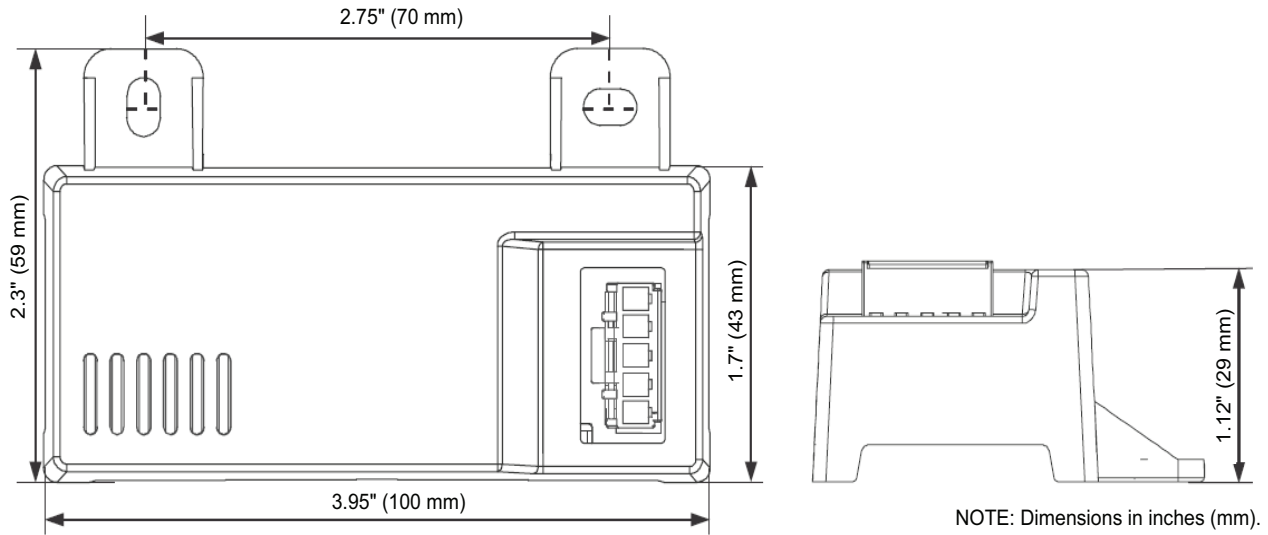
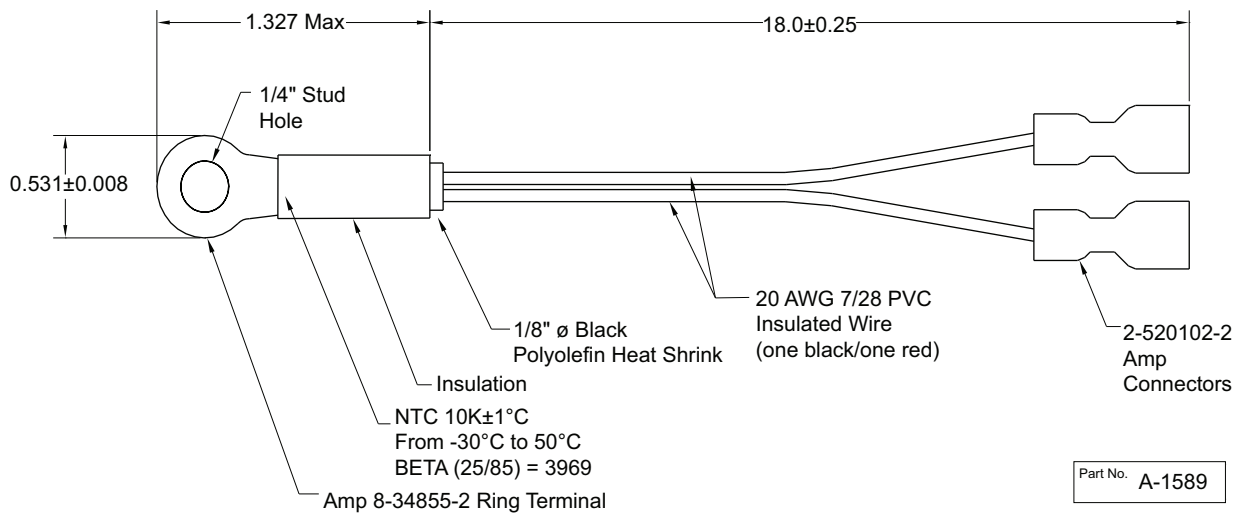
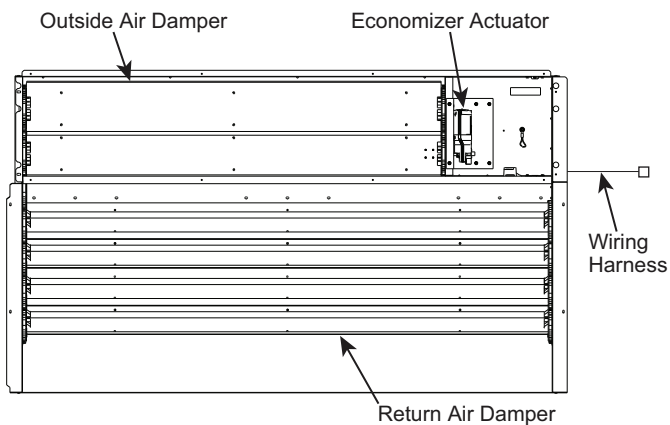

Fig. 88 — HH57LW001 Dimensional, Connection and Switching Information
Fig. 89 — HH79NZ039 Dry Bulb and Mixed Air Sensor Wiring
Fig. 90 — EconomizerONE System Component Locations
When using the HH57LW001 enthalpy sensor (see Fig. 88) for outside air changeover, the existing HH79NZ039 dry bulb sensor (see Fig. 89) must be removed. The enthalpy sensor will be mounted in the same location as the dry bulb sensor (see Fig. 90). When the enthalpy sensor's OA (Outside Air) temperature, enthalpy, and dew point are below their respective set points, outside air can be used for free cooling. When any of these are above their set point, free cooling will not be available. Enthalpy set points are configurable and create an enthalpy boundary according to the user's input. For additional details, see Fig. 91-92 and Table 36.
The optional enthalpy control sensor (P/N: HH57LW001) communicates with the POL224 economizer controller using the 5-wire harness, 48TC005213. The HH57LW001 sensor can be used as a single outside air enthalpy, a differential return enthalpy, or a differential return temperature sensor. Refer to the base unit control wiring diagrams found earlier in this book to wire the HH57LW001 enthalpy sensor for each option. See Fig. 88 and Table 38 on page 78 to locate the wiring terminals for each enthalpy control sensor.
Economizers are shipped standard with an HH79NZ039 outside air dry bulb sensor (refer to Fig. 89). System default setting (high temp limit) is 63°F (17°C) and has a range of 48°F to 80°F (9°C to 27°C). Sensor is factory installed on economizer.
If installing the optional HH57LW001 enthalpy sensor, the HH79NZ039 dry bulb outside air sensor must first be removed. Wire sensor to harness 48TC005213 and the (5) wires from the harness to the EconomizerONE harness in the return air chamber. Harness 48TC005213 has a 5-pin plug that connects directly to the HH57LW001 enthalpy sensor. Refer to the base unit control wiring diagrams earlier in this book for wiring connections. Refer to Fig. 88 and see Table 38.